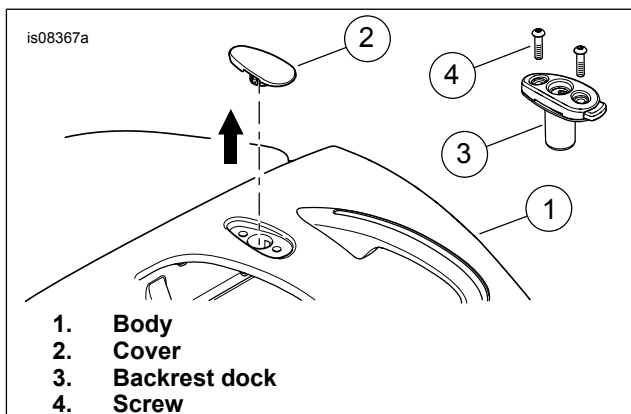

Figure 1. Trim Cover
1. Refer to Figure 1. Using a plastic screwdriver, or your finger nail, remove trim covers (2) from the body (1).